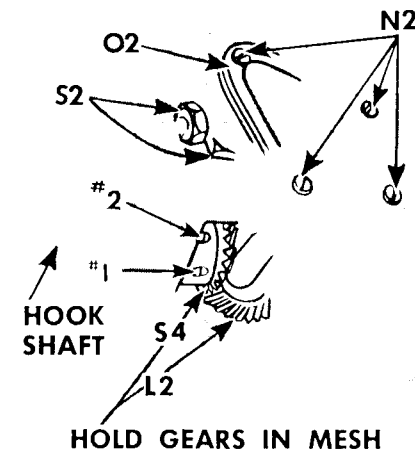

Fig. 47. Removing and Replacing Hook Shaft
2. Mark the two lower bevel gears L2 and S4, Fig. 47, with chalk or crayon, on one tooth of one gear and the corresponding space in the other gear. This is important, as these gears may become separated during removal of shaft. These marks will then make it possible to obtain the original relative position of the gears.
3. While holding the two gears L2 and S4 in mesh, as instructed in Fig. 47, loosen the two set screws #1 and #2 in the hook shaft bevel gear, withdraw the old hook shaft and insert the new shaft.
4. Make certain that set screw #1 (the first of the two bevel gear set screws to appear as the machine pulley is turned over toward operator) seats over flat on the hook shaft. Remove all end shake from hook shaft, by pushing hook firmly against front hook shaft bushing and, at the same time, pushing gear S4, Fig. 47 toward the hook on the shaft. Securely tighten first set screw #1, then securely tighten the second screw #2.
1. Loosen the two oil pipe clamping sleeve nuts S2, Fig. 47.
2. Remove the four screws N2, Fig. 47.
3. Remove the screen frame, screen and oil pump cover O2, Fig. 47.
5. Replace pump cover, screen and frame **O2** and four screws **N2**, **Fig. 47**. Securely tighten screws **N2**.